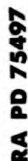

Figure 94 — Air-driven Sump Pump — Exploded View
b. **Functioning** (fig. 94). In operation, the air-driven motor turns the impeller at a high rate of speed. The lower part of the pump housing, containing the impeller, is submerged in water. As the im-
(1) When made, clearance between impeller cover and impeller is set at about 0.010 inch. Wear increases this clearance, and when $\frac{1}{32}$ inch, remove inlet and cover (par. 73) and take out enough shims from under impeller cover to reduce clearance to about 0.010 inch. Place impeller cover in position and rotate impeller by hand to be sure they do not rub. When approximate adjustment is obtained, install impeller cover and inlet (par. 73).
(2) To adjust impeller to maintain $\frac{1}{64}$ -inch clearance between reverse side of impeller and housing, disassemble pump (par. 73), remove enough shims (fig. 94) to give $\frac{1}{64}$ -inch clearance, and assemble pump (par. 73).
(1) Remove back head (par. 73).
(2) Adjust oil adjusting screw on under side of back head beneath oil chamber plug. To reduce flow, turn clockwise. To increase flow, turn counterclockwise.
(3) Install back head (par. 73).
a. Disassembly (figs. 94 and 95).
(1) REMOVE AND DISASSEMBLE AIR STRAINER.
b. Assembly (figs. 94 and 95).
(1) ASSEMBLE HOUSING.